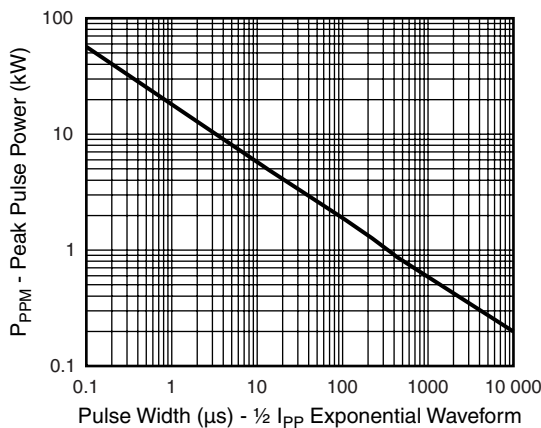
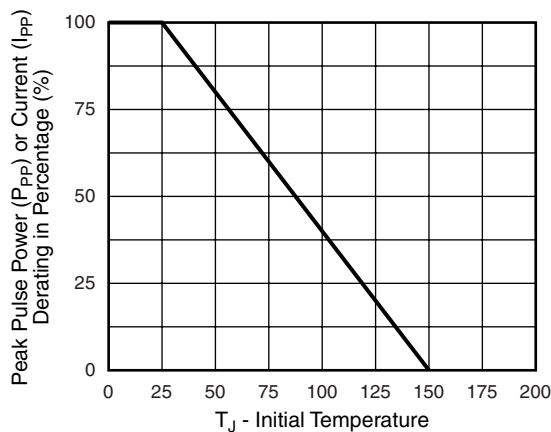

Figure 1. Peak Pulse Power Rating Curve
Figure 2. Pulse Power or Current vs. Initial Junction Temperature
(1) Non-repetitive current pulse, per Fig. 1 and derated above  $T_A = 25$  °C per Fig. 2.